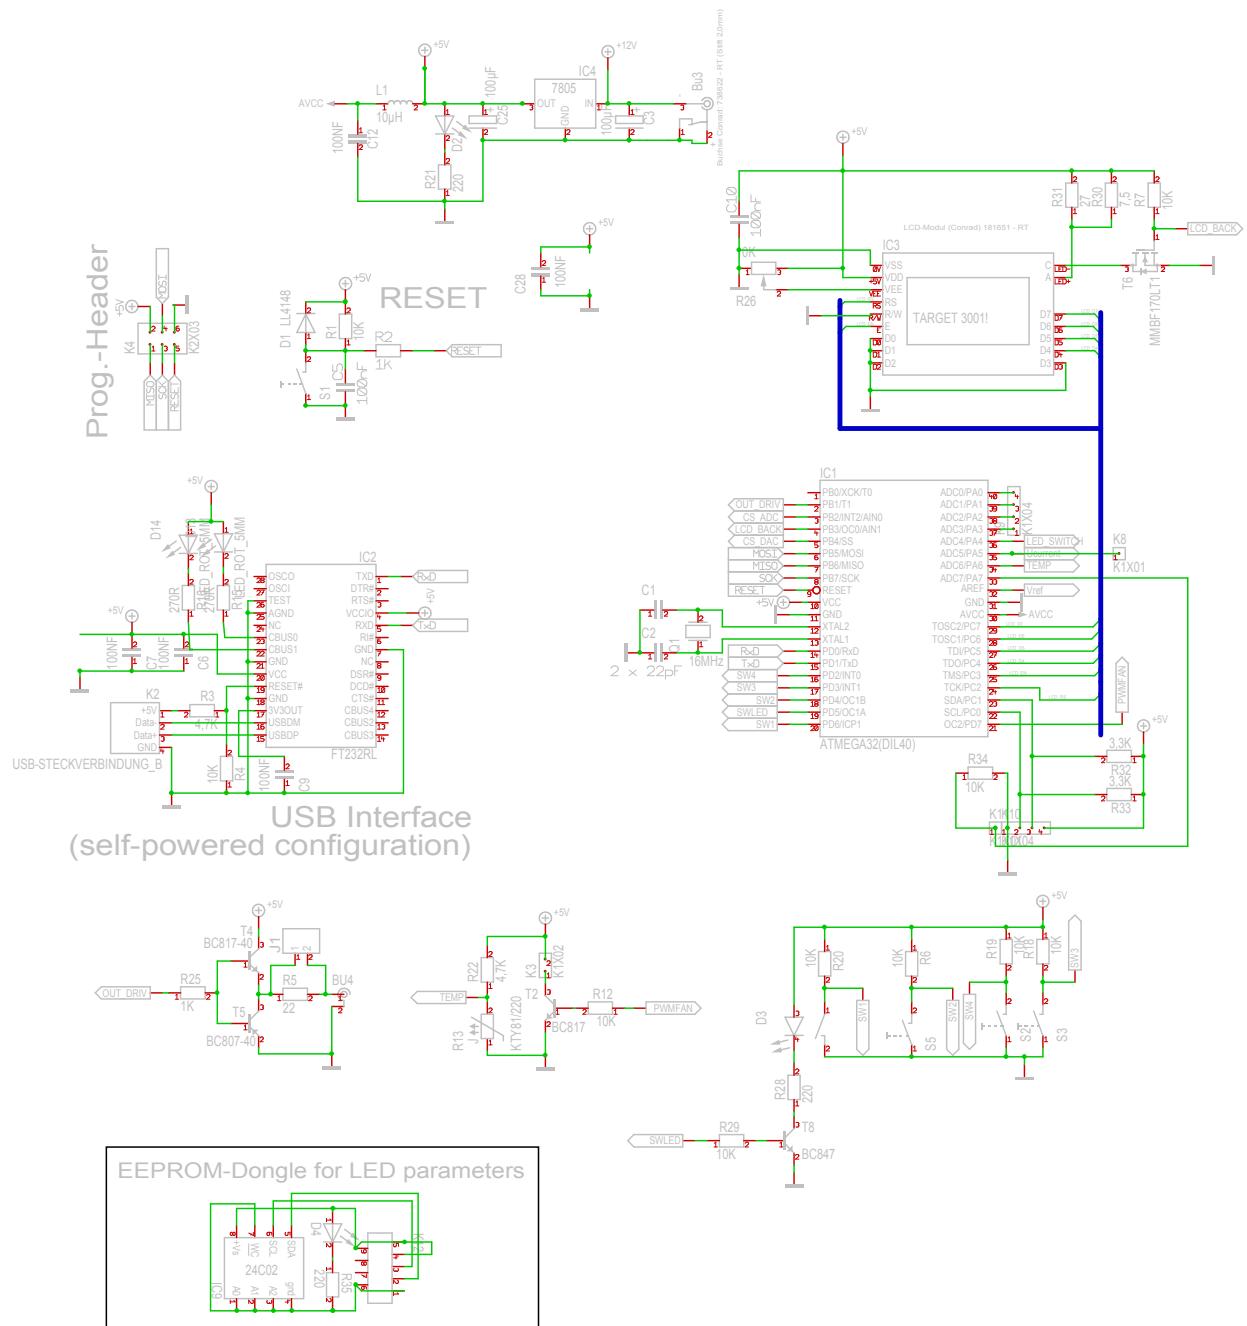

Figure 2: Schematic: Digital Part
The analog part consists of a DA converter (IC5), which is connected to an analog constant current sink (IC7a, T5). With T1, the LED can be switched on and off completely. The resolution of the DAC is approximately 1mA. The supply current is filtered with L2,C24,C30. Since the current sink is not set up as a switched-mode regulator, the excess power is converted to heat by T5. Therefore cooling of T5 should be added (with a heatsink and a fan, see Fig. 2).
2. **the digital part**, which contains the microcontroller, display, the USB connection and power-supply, see Fig. 2.
3. a small circuit inside a **dongle**, which is specific to each LED. This dongle is a circuit, connected to a D-SUB 9-pole connector and basically contains an IIC EEPROM, which stores the LED parameters. This way, the circuit can read the LED parameter (max. current, name, ...) from this dingle and you can easily exchange LEDs during operation: Just plug in the new LED and exchange the dongle. See Fig. 2 for the schematic.